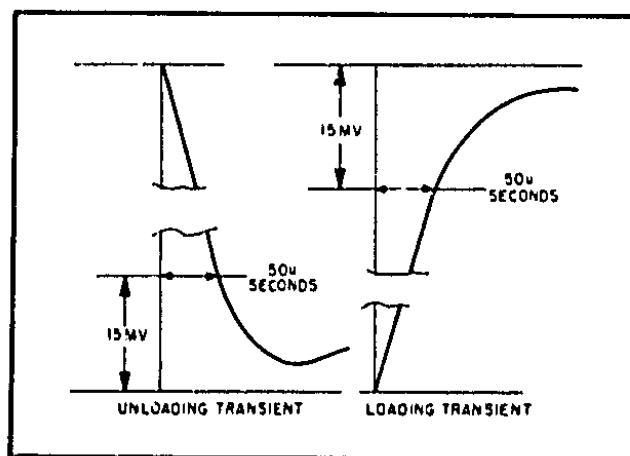

Figure 5-8. Transient Recovery Time, Waveforms
k. Starting from the major graticule division representative of time zero, count to the right 50μsec and vertically 15mV. Recovery should be within these tolerances as illustrated in Figure 5-8.